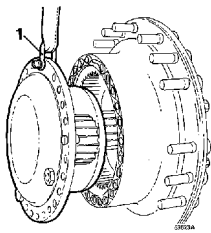

Figure 2
7. Connect a hoist to the planetary retaine, see Figure 2.